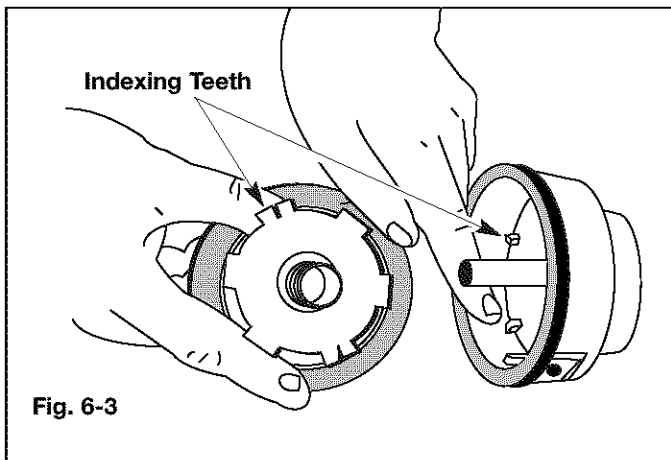

Fig. 6-3
5. Check the indexing teeth on the inner reel and outer spool for wear (Fig. 6-3). If necessary, remove burrs or replace the reel and spool.